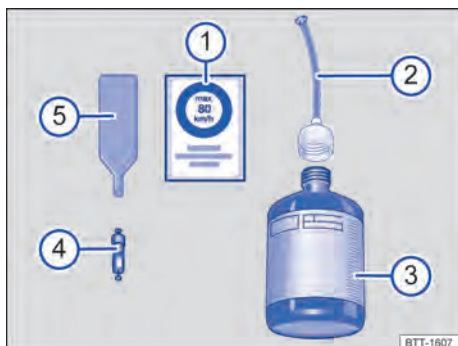

Fig. 219 The breakdown set
- ① Sticker with the maximum permitted speed "max. 80 km/h" or "max. 50 mph".
- ② Filler hose with plug.
- ③ Tyre filler bottle.
- ④ Spare valve core.
- ⑤ Valve core extractor.
There is a slot on the lower end of the valve core extractor → Fig. 219 ⑤ for the valve core. This is required for extracting and fit-
2. Use the valve core extractor → Fig. 219 ⑤ to screw the valve core out of the tyre valve. Place the core on a clean surface.
3. Shake the tyre filler bottle → Fig. 219 ③ vigorously several times.
4. Screw the tyre filler hose → Fig. 219 ② tightly onto the tyre filler bottle in a clockwise direction.
5. Remove the plug from the tyre filler hose → Fig. 219 ② and place the open end fully on the tyre valve.
8. Use the valve core extractor → Fig. 219 ⑤ to screw the valve core back into the tyre valve.